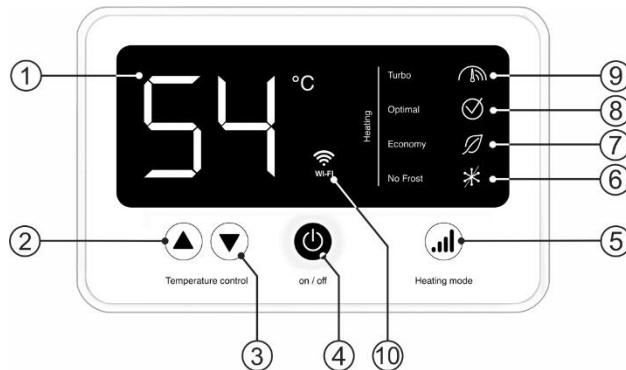

Figure 2. Electronic control board
Figure 2: 1 – LCD display, 2 – button «▲» Temperature control / increasing the heating temperature, 3 – button «▼» Temperature control / decreasing the heating temperature, 4 – button «on/off» / switch on/switch off, 5 – button «Heating mode» / setting the heating power, 6 – “No Frost” mode indication, 7 – indication «Economy» / minimum power, 8 – indication «Optimal» / conventional power, 9 – indication «Turbo» / maximum power, 10 – Wi-Fi feature.
Switching on/switching off of the EWH is performed by pressing the central button «on/off» (Figure 2, p. 4), while the display shows the preselected heating temperature. After 2.5 seconds, the display shows the current water temperature in the EWH. Selection of the heating power is performed by pressing the button «Heating mode» (Figure 2, p. 5), on the control panel. Mode 2 kW is accompanied by the indication of a control lamp «Turbo» (Figure 2, p. 9), 1,3 kW is accompanied by the indication of a control lamp «Optimal» (Figure 2, p. 8), and 0,7 kW is accompanied by the indication of a control lamp «Economy» (Figure 2, p. 7). Antifreeze mode is accompanied by the indication of a control lamp «No Frost» (Figure 2, p.6).
During the operation of the EWH, the user can adjust the temperature of the water heating using two buttons «▲» «▼» Temperature control (Figure 2, p. 2 and p. 3).
2. On water heater panel press and hold buttons 2 and 3 together (Fig. 2). Appears Wi-Fi indication (cl. 10, Fig. 2).